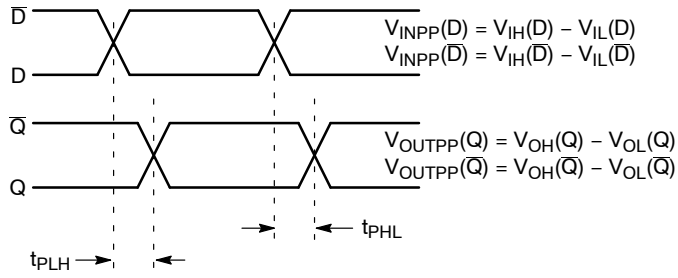

Figure 13. AC Reference Measurement
24. See Figure 13 $t_{skew} = |t_{PLH} - t_{PHL}|$ for a nominal 50% differential clock input waveform. Skew is measured between outputs under identical transitions and conditions @ 1 GHz.